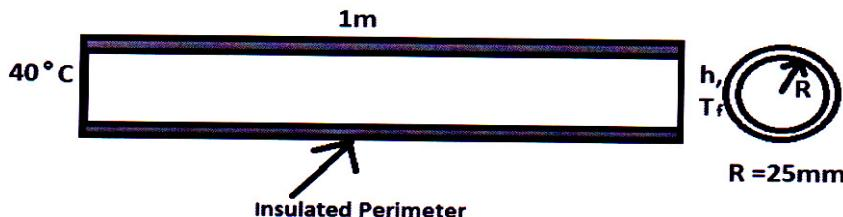

Figure 3
- Q8)** Determine the temperature distribution along the length of the rod (at $L/4$, $L/2$, $3L/4$ and L) as shown in figure 3, The rod with radius 25mm is insulated at the perimeter. The left end has a constant temperature of 40°C and a free stream temperature is -10°C , Take, $K = 35 \text{ W/m}^{\circ}\text{C}$, $h = 55 \text{ W/m}^2\text{ }^{\circ}\text{C}$. [16]